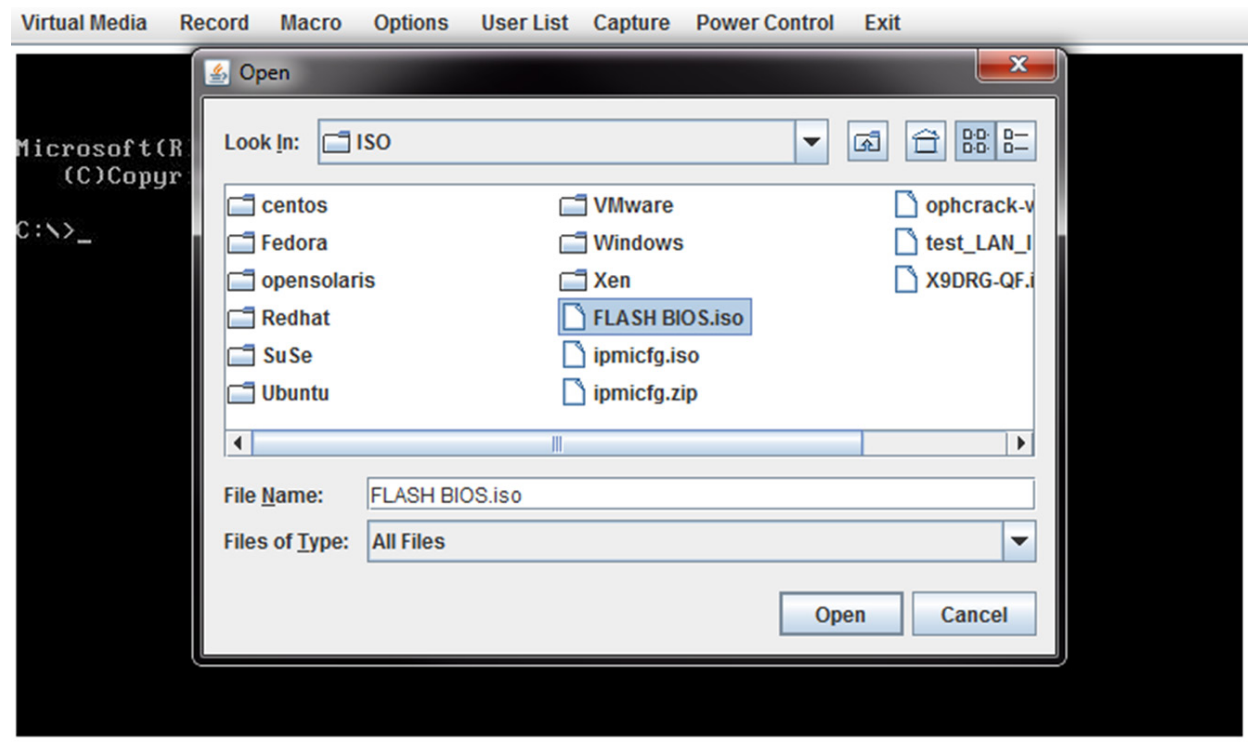

Figure A-6. Locating the ISO File
- Browse for the ISO file on your local disk that contains the BIOS file and flash utility (Figure A-6). Press the Open button to select it.